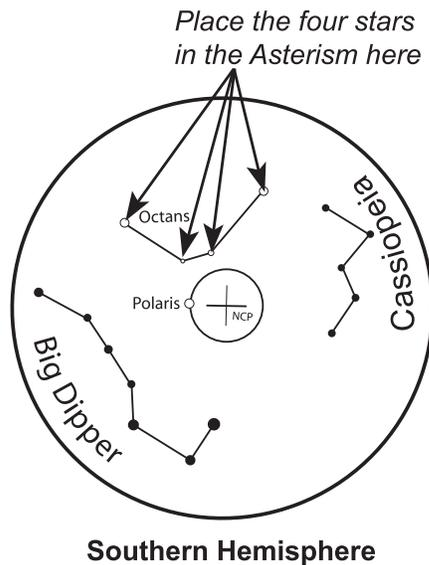

Fig. 3.2a
Once the mount is powered up and the polar scope is illuminated, the pattern in the above figure (Fig. 3.2a) should be visible in the field of view (FOV) of the polar scope. If the image appears blurred, rotate the knurled ring of the polar scope's eyepiece to focus.
2. **For observing in Southern Hemisphere:** In the FOV of the polar scope, locate the 4 dim stars (Around Magnitude 5 to 6) which form the pattern like the "Octans" drawing in the polar scope (refer to Fig. 3.2a). Loosen the R.A. clutch and rotate the R.A. axis to align the orientation of the "Octans" drawing to the 4 stars. Then use the jack screw and the azimuth adjustment knobs to move the 4 stars to the 4 small circles of the "Octans" drawing.
As the Polaris is not located exactly at the North Celestial Pole, we can see it orbits the North Celestial Pole in a polar scope. The large circle seen in the center of the pattern in Fig. 3.2a is a representation of the Polaris' orbit around the North Celestial Pole. When performing the polar alignment process, it is necessary to determine the orientation of the Polaris on the circle. We can use the following 3 methods to get the orientation:
3. At the end of the initialization of the SynScan hand control, after entering the proper local longitude, latitude, date, time, and daylight-saving time, the SynScan hand controller will display the message: "Polaris Position in P.Scope=HH:MM". Imagine the larger circle in Fig. 3.2a as a clock's face with 12:00 at the top, with the current time pointing to the "HH:MM". The orientation of the hour hand of the clock represents the orientation of the Polaris in the polar scope. Put the Polaris to the same orientation on the large circle to finish the polar alignment.